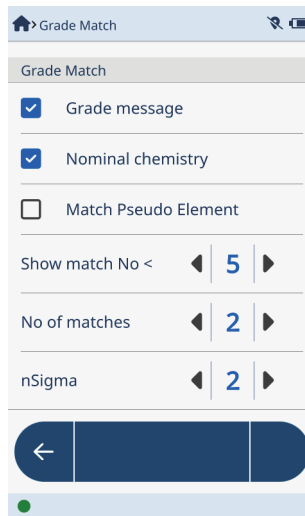

Figure 2-59 Configure match settings
1. On the **Grade Match** screen, tap the left or right arrow next to **Show Match No** < to select a match number “less than” value (see Figure 2-59 on page 75).